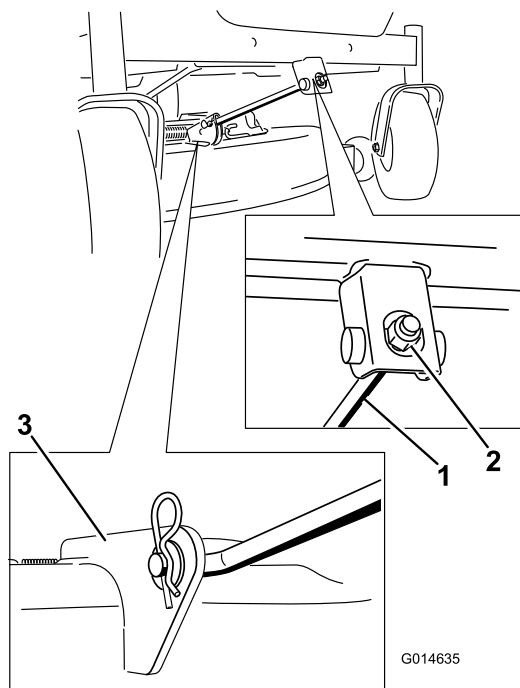

Figure 74
5. Remove the hairpin cotter from the front support rod, and remove the rod from the deck bracket (Figure 74).
6. Attach the front support rod to the mower deck with the clevis pin and hairpin cotter (Figure 74).